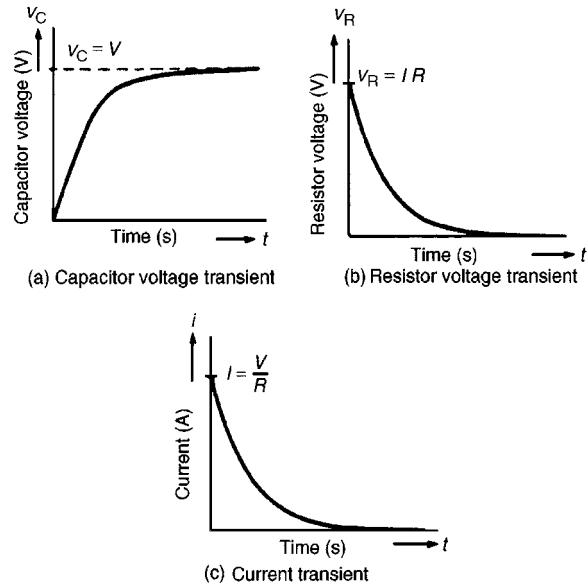

Figure 18.2
- (c) A short time later at time t_1 seconds after closing S , the capacitor is partly charged to, say, q_1 coulombs because current has been flowing. The voltage v_{C1} is now (q_1/C) volts. If the current flowing is i_1 amperes, then the voltage drop across R has fallen to i_1R volts. Thus, Equation (2) is now $V = (q_1/C) + i_1R$
- (e) Ultimately, a few seconds after closing S , (i.e. at the final or **steady state** condition), the capacitor is fully charged to, say, Q coulombs, current no longer flows, i.e. $i = 0$, and hence $v_R = iR = 0$. It follows from Equation (1) that $v_C = V$.
- (f) Curves showing the changes in v_C , v_R and i with time are shown in Fig. 18.2
The transient curves shown in Fig. 18.2 have mathematical equations, obtained by solving the differential equations representing the circuit. The equations of the curves are: